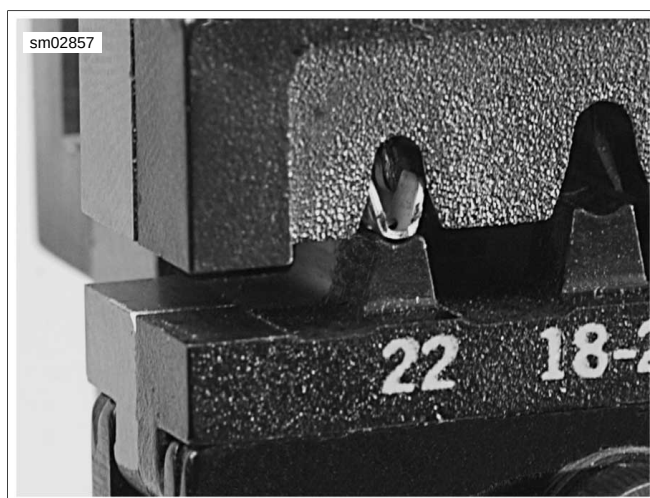

Figure A-52. Crimp Tails in Vertical Alignment between Punch and Die
- See Figure A-52. Ratchet the handles together until the crimp tails are held in vertical alignment between the punch and the die.